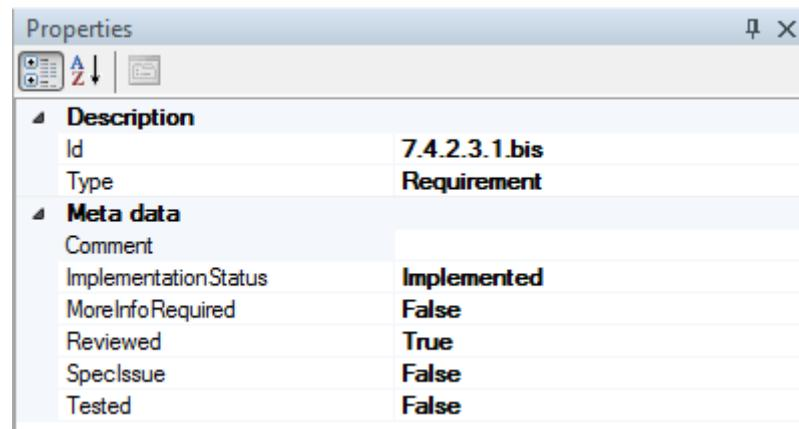

Figure 27: Properties contents
- The properties of the Paragraphs are the same for all of them, and give additional information. The description of these properties is done just following, see Figure 27.